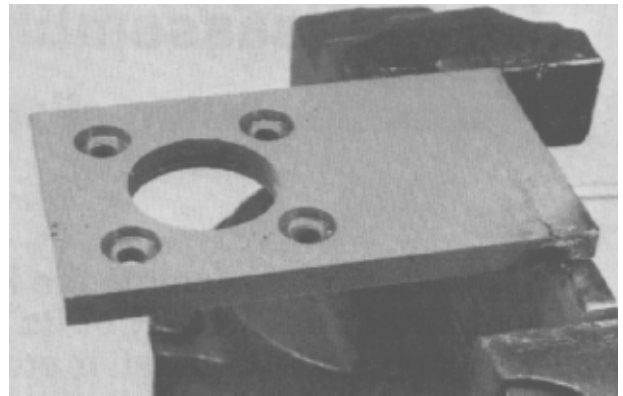
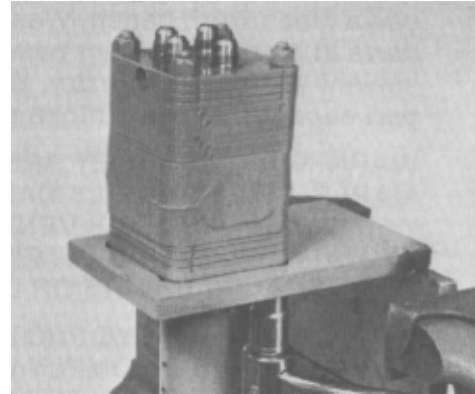

Figure 43
Figure 44
1. To avoid distorting or damaging the steering valve, do not clamp it directly into a vise. Clamp a service assembly fixture securely in a vise (Fig. 43). Put the steering valve, input shaft first, into the service assembly fixture. Attache the steering valve to the fixture with four (4) 5/16–24 UNF nuts (Fig. 44).